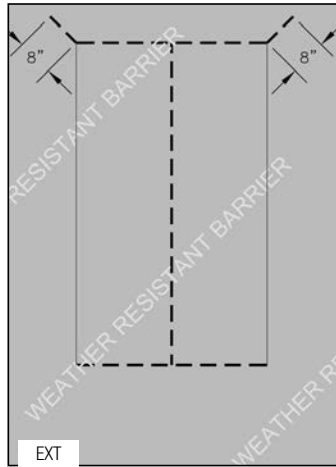

FIG. 5
- F) Make an "I-Cut" in the weather-resistant barrier (WRB). Begin with a horizontal cut along the bottom and the top of the rough opening. Then make a vertical cut in the center from top to bottom. (Fig. 5)
- G) From the exterior, make two diagonal cuts at the top of the "I-Cut" as shown to form a flap. (Fig. 5)